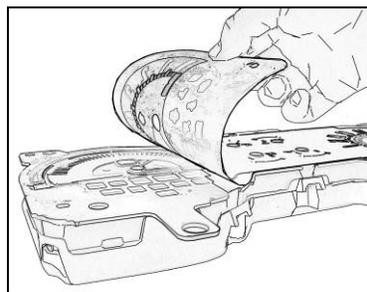

Figure 9
- 6. Remove the Original appliqué from the cluster by peeling it back from one corner (See figure 9). Pull it slowly making sure that the lighting components underneath do not come out and get disoriented.